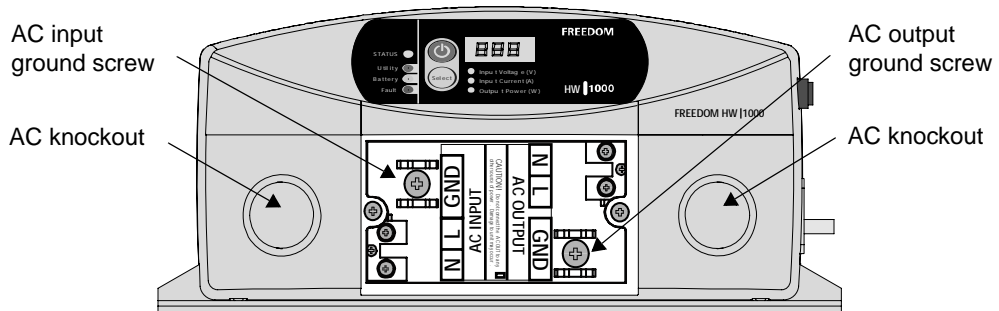

Figure 1-5 Freedom HW AC Wiring Compartment
AC Wiring Compartment	For your reference, the AC Wiring Compartment is shown in Figure 1-5.
4. Remove the left-hand side AC wiring knockout from the front panel of the unit (see Figure 1-5 on page 1–17).
A separate screw is provided to connect the AC input ground (see Figure 1-5 on page 1–17).